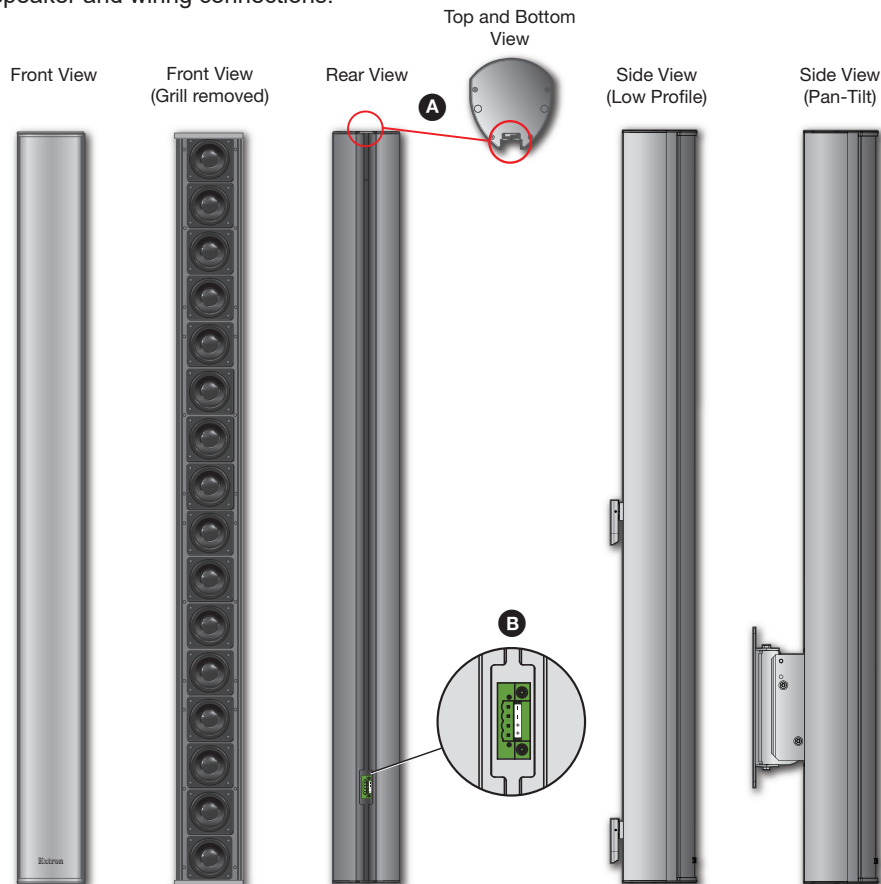

Figure 2. CA 163 Product Diagram
- A** **Mounting Bracket T-slot** (see figure 2) — Runs the entire length of the speaker enclosure. Carriage Bolts (for the SMK LP CA) or Anchor Plates (SMK PT CA) can slide in through either end to the desired locations. Secure and re-adjust if needed.